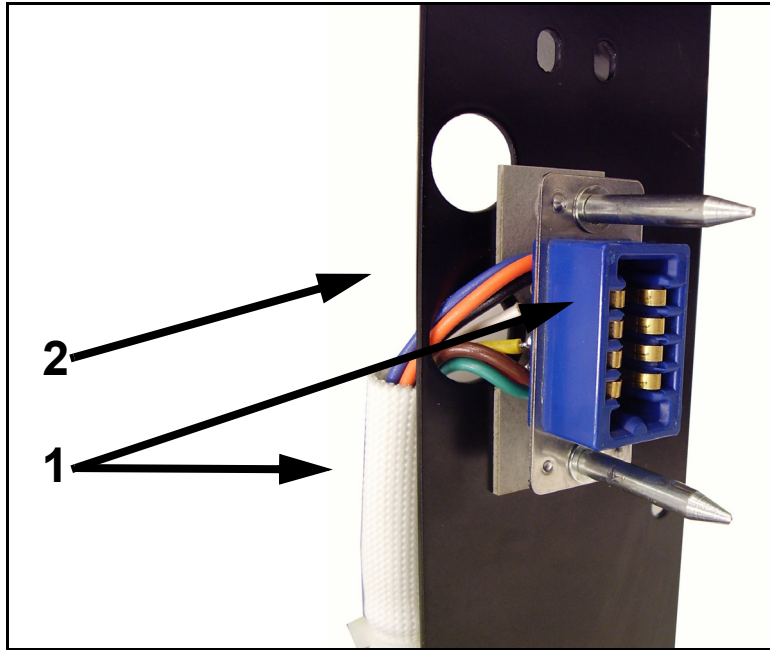

Figure 6-16. Harness
- 3 Disconnect wires (1 in Figure 6-16) from the terminal (2).
- 4 Pull connector and harness (1 in Figure 6-16) out of bracket (2).